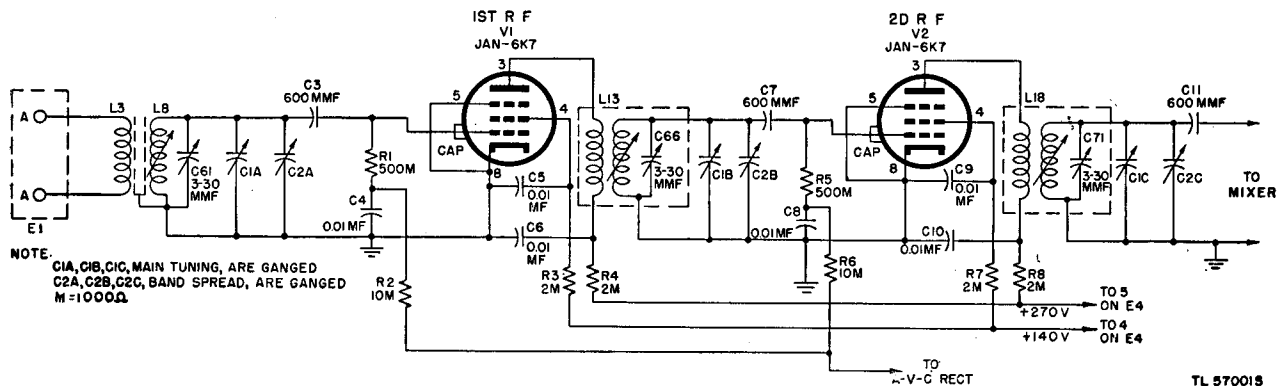
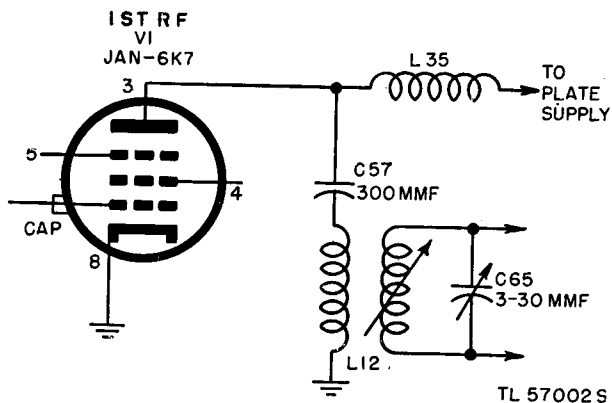

Figure 25. Radio Receiver BC-779-B, functional diagram of r-f amplifier.
Figure 26. Radio Receiver BC-794-B, functional diagram of 1st r-f stage.
59. R-F Amplifier (fig. 25)
For simplicity, only the circuits for the 2.5- to 5.0-mc band are shown and the band switching arrangement is omitted from figure 25. The band switching circuits are discussed in paragraph 68.
c. DIFFERENCES IN R-F CIRCUITS. (1) *Plate supply*. In Radio Receivers BC-779-(*), BC-1004-(*), and R-129/U, plate voltage is series-fed through resistance-capacitance (R-C) decoupling circuits and the r-f transformer primaries (fig. 25). In Radio Receiver BC-794-(*), plate voltage is shunt-fed by means of choke L35 and 300-mmf capacitor C57 in the first stage, and choke L36 and 300-mmf capacitor C58 in the second stage (figs. 26 and 57). This method was chosen to keep plate voltage off the tuned impedance interstage coupling circuits L49, C99, and L50, C100, of the 20-40-mc band. Decoupling filters R4, C6, and R8, C10, are not included.